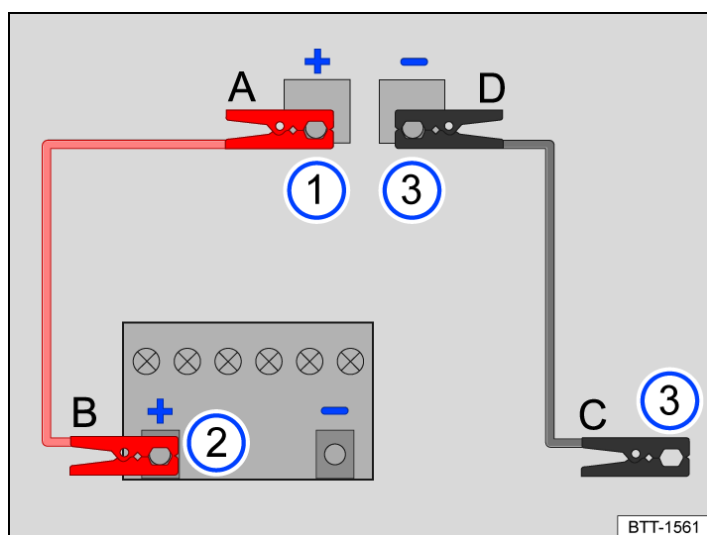

Fig. 2 Diagram for connecting the jump leads (12-volt vehicle battery in the luggage compartment).
The jump leads should be connected only in the order A – B – C – D → Fig. 2.
- Connect one end of the *red* jump cable A to the jump lead positive (+) of the vehicle with the discharged 12-volt vehicle battery → Fig. 2 ① → ⚠.
- Connect the other end of the *red* jump lead B to the positive terminal + of the vehicle battery providing assistance → Fig. 2 ②.
- One end of the *black* jumper cable C should preferably be connected to a jumper point (ground connection) on the vehicle with the 12-volt vehicle battery supplying power, otherwise to a solid metal part firmly screwed to the engine block or to the engine block itself → Fig. 2 ③.
- The other end of the *black* jump lead D for the vehicle with the 12-volt discharged vehicle battery, preferably to the jump lead ground connection (-), otherwise to a solid metal part firmly screwed to the engine block or to the engine block itself → Fig. 2 ③ → ⚠.